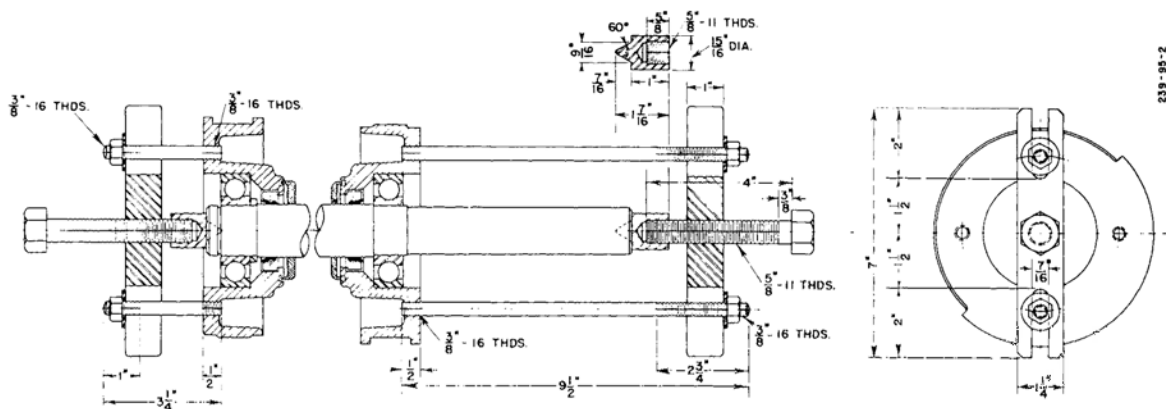

Figure 28:
11. Remove constant level oilers (251) on both thrust end and coupling end. Drain oil from bearing housings (134 and 166).
13. Unscrew shaft nut (110) from shaft.
14. Remove ball bearings (112 and 137) from shaft seat by use of a bearing puller. Details of a recommended puller, capable of removing bearings from all three groups of pumps are shown in Figure 28: on page 40. Care must be used. Puller bar must be square with shaft so that equal pressure is applied evenly to the circumference of the outer race of the bearing. A steady pressure must be applied to the puller screw.